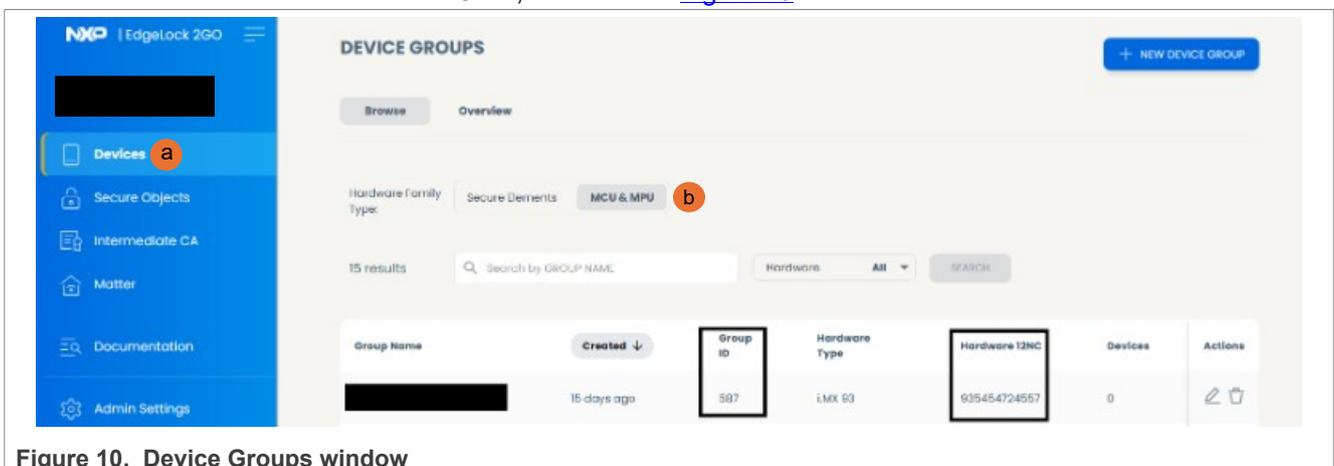

Figure 10. Device Groups window
- `device_group_id/nc12`: Enter the device group ID and NC12 dedicated to the device group. This information is received from the OEM, as shown in Figure 10.